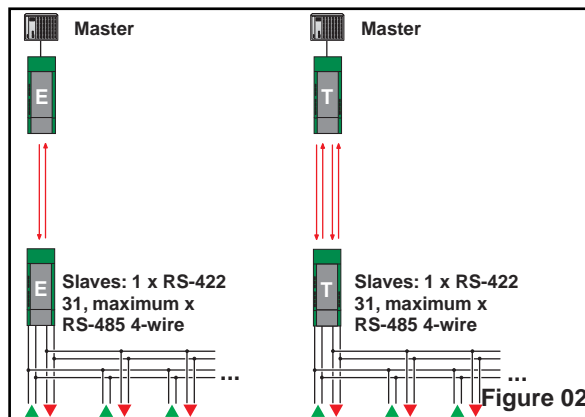

Figure 02
2.1 Point-to-Point Connections/Redundant Point-to-Point Connections (Figure 02)